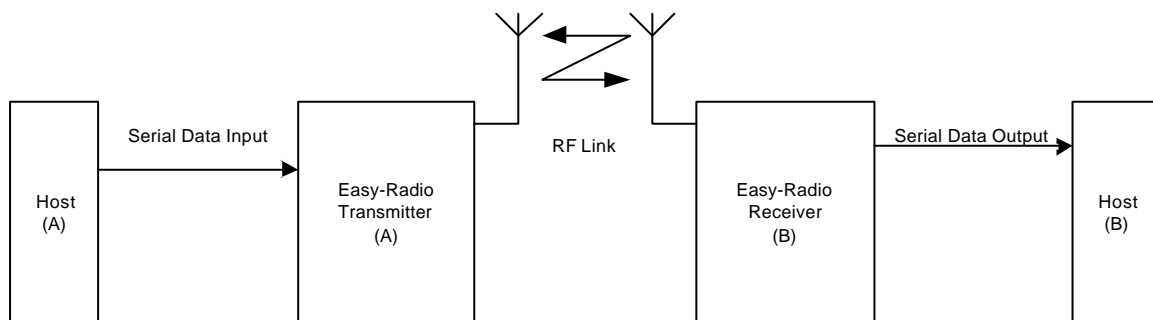

Figure 2 Host Connection
Figure 2 shows a typical system block diagram comprising hosts (user's application) connected to Easy-Radio Transmitters and Receivers. The host (A) will be monitoring (collecting data) and the host (B) will be sending data to some real world application.
Easy-Radio Transceivers are complete sub-systems that combine a high performance very low power RF FSK (FM) transceiver, a microcontroller and a voltage regulator. (Figure 2) The microcontroller programmes the functions of the RF transceiver and provides the interface to the host system via a serial input/output. It also contains programmable EEPROM memory that can hold configuration data for the various transceiver operating modes. A Received Signal Strength Indicator (RSSI) output can be optionally used to measure received signal levels.